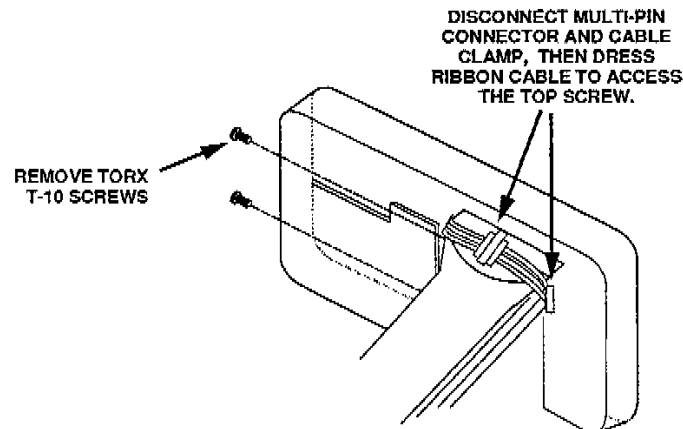

Figure 4-37. Removing the screws from the CRT shield and chassis.
11. Disconnect the multi-conductor connector from the right front of the Mother Board (A1). The other end of this cable is soldered to the Right Front-panel assembly (A2A2). This is to gain access to the screw at the top of the CRT shield. See Figure 4-37.